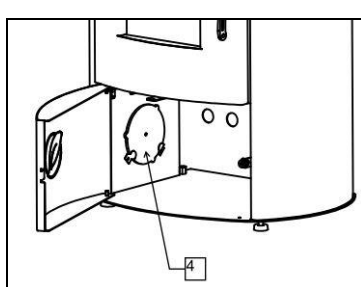

Figure 10
- Position of the cover as delivered with the stove (Figure 10, item 4).